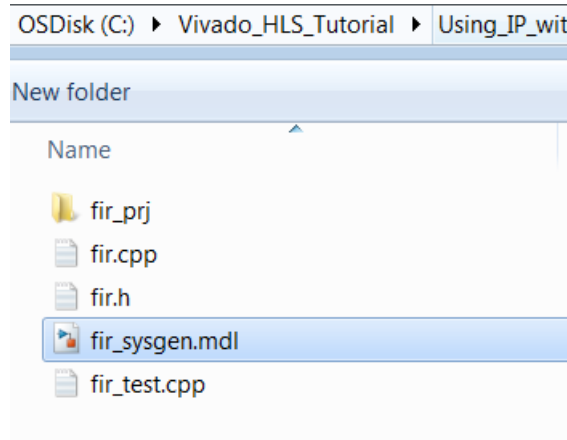

Figure 271: Select File fir_sysgen.mdl
3. Navigate to the tutorial directory Vivado_HLS_Tutorial\Using_IP_with_SysGen\lab1 and select the file fir_sysgen.mdl (Figure 271).